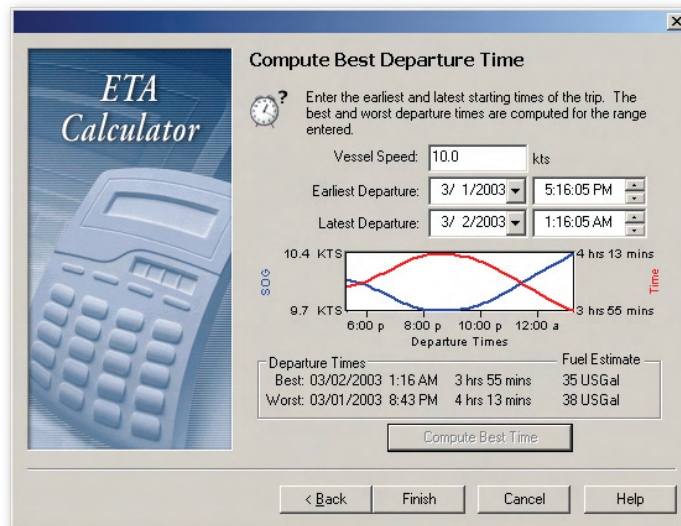

Figure 11.5 - ETA Calculator - Best Departure Time
3. A dotted line (see **Figure 11.5**) should appear between the tide or current station and the route leg (red dotted line for currents or blue dotted line for tides).
4. The ETA Calculator will now compute your best and worst departure times and list them in the ETA Calculator window (see **Figure 11.5**).